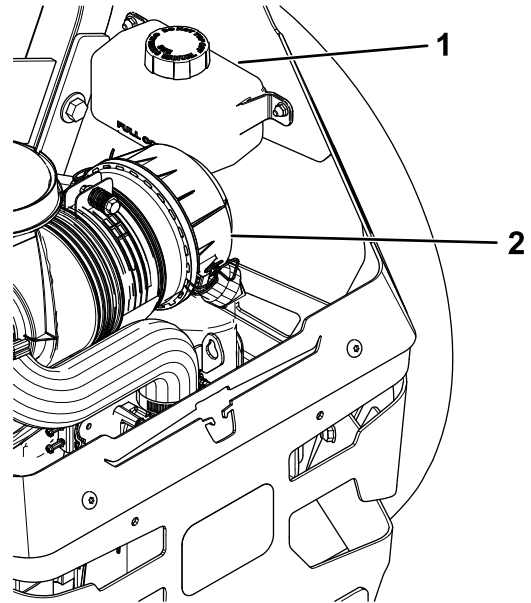

Figure 69
2. Check expansion reservoir and if necessary add Toro® HYPR-OIL™ 500 hydraulic fluid to the FULL COLD line (Figure 69).